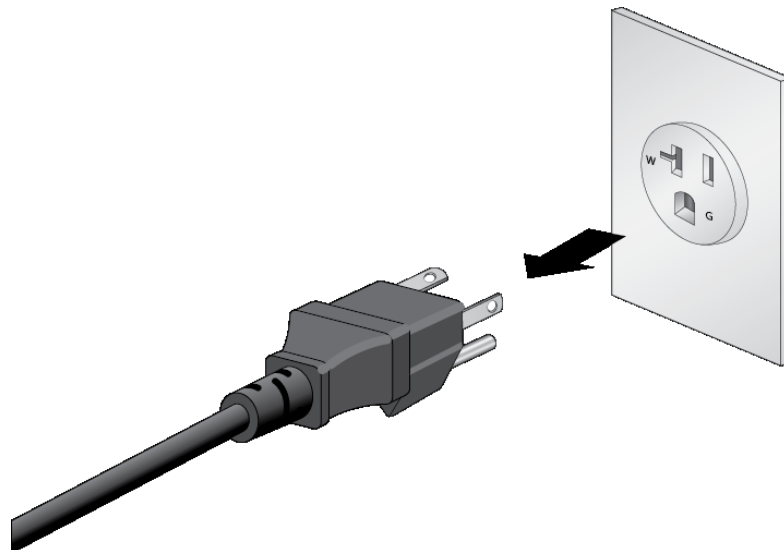

Figure 103. Disconnecting the AC Power Cord from the Power Source
1. Disconnect the AC power cord for the power supply from the AC power source. Refer to Figure 103.